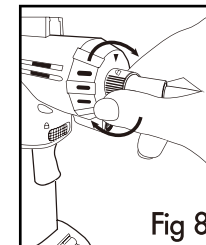

Fig 8
2. Push "Flexible Air Hose" in and turn clockwise until locked in place, as shown by "🔒" symbol. (See Fig 8)